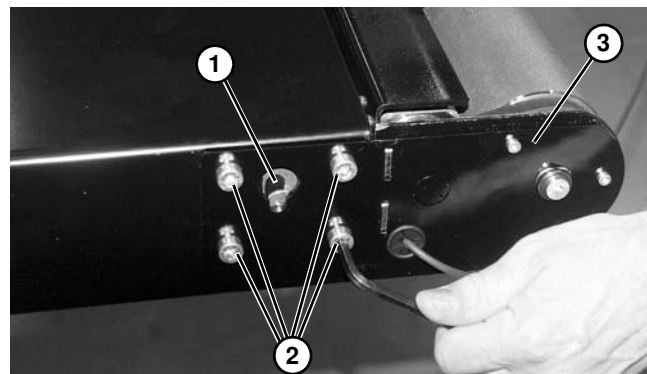

Figure 196
2. On tension end of the conveyor, identified by the pinion access slot (Figure 196, item 1), loosen the four tail clamp screws (Figure 196, item 2) on both sides of the conveyor head plate assembly (Figure 196, item 3).